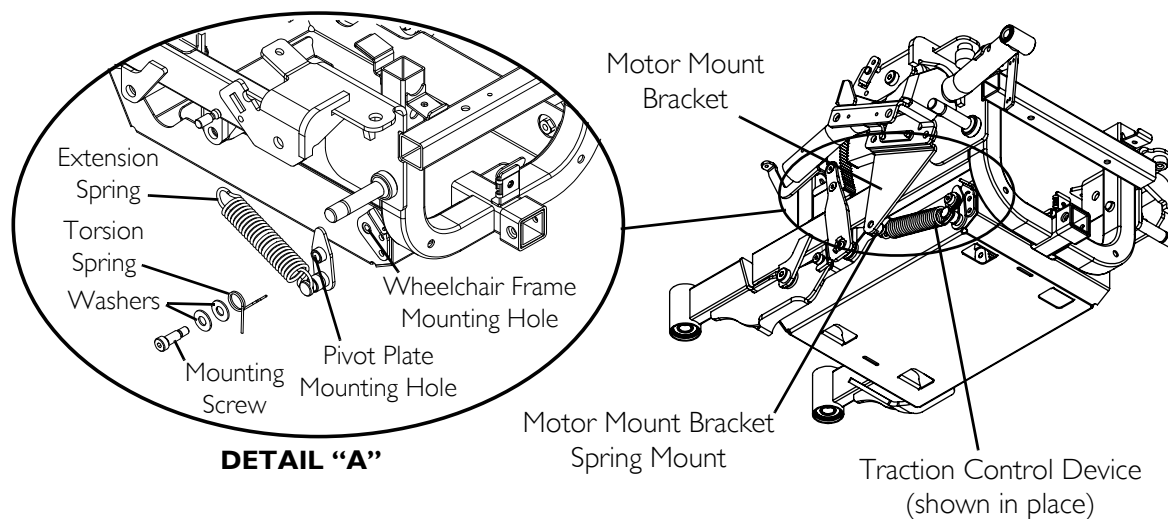

FIGURE 9.4 Removing/Installing the Traction Control Device
NOTE: For this procedure, refer to FIGURE 9.4.
5. Remove the torsion spring from the pivot plate spring mount (Detail "A" of FIGURE 9.4). Set torsion spring aside.
6. Remove the mounting screw and two washers and torsion spring securing the pivot plate to the wheelchair frame (Detail "A" of FIGURE 9.4).